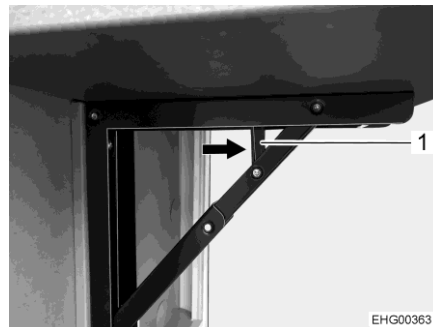

Fig. 28 Release
- Press release (Fig. 28,1) in the direction indicated.